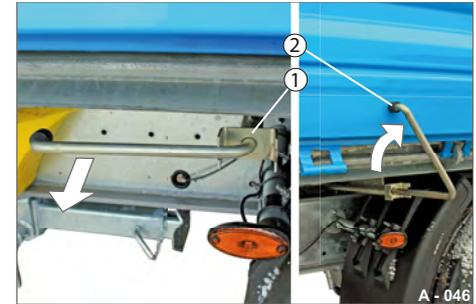

Fig. 64 Swinging gate secured
- ▶ Pull the door stay (Fig. 64/2) out of the holder (Fig. 64/1).
- ▶ Pull on the door stay (Fig. 66/1) and lock it in the holder (Fig. 64/1).